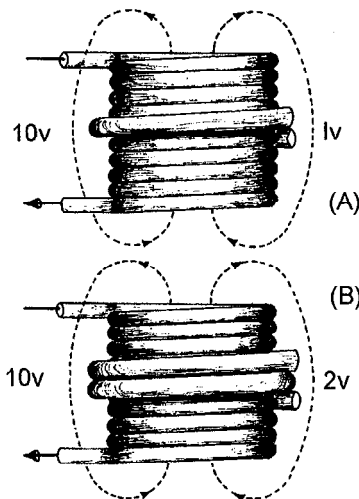

Figure 5-10.—Transformer turns and voltage ratios.
The total voltage induced into the secondary winding of a transformer is determined mainly by the **RATIO** of the number of turns in the primary to the number of turns in the secondary, and by the amount of voltage applied to the primary. Refer to figure 5-10. Part (A) of the figure shows a transformer whose primary consists of ten turns of wire and whose secondary consists of a single turn of wire. You know that as lines of flux generated by the primary expand and collapse, they cut **BOTH** the ten turns of the primary and the single turn of the secondary. Since the length of the wire in the secondary is approximately the same as the length of the wire in each turn in the primary, **EMF INDUCED INTO THE SECONDARY WILL BE THE SAME AS THE EMF INDUCED INTO EACH TURN IN THE PRIMARY**. This means that if the voltage applied to the primary winding is 10 volts, the counter emf in the primary is almost 10 volts. Thus, each turn in the primary will have an induced counter emf of approximately one-tenth of the total applied voltage, or one volt. Since the same flux lines cut the turns in both the secondary and the primary, each turn will have an emf of one volt induced into it. The transformer in part (A) of figure 5-10 has only one turn in the secondary, thus, the emf across the
The transformer represented in part (B) of figure 5-10 has a ten-turn primary and a two-turn secondary. Since the flux induces one volt per turn, the total voltage across the secondary is two volts. Notice that the volts per turn are the same for both primary and secondary windings. Since the counter emf in the primary is equal (or almost) to the applied voltage, a proportion may be set up to express the value of the voltage induced in terms of the voltage applied to the primary and the number of turns in each winding. This proportion also shows the relationship between the number of turns in each winding and the voltage across each winding. This proportion is expressed by the equation: